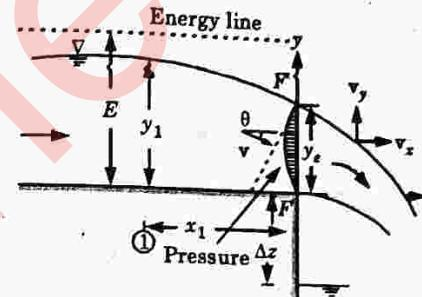

Fig. 3.23.1. Definition sketch of the end depth.
3. A typical free overfall is schematically illustrated in Fig. 3.23.1. The flow in the nappe emerging out of the overfall is obviously affected by gravity.
6. Also, at the brink, the pressure should necessarily be atmospheric at points F and F'. This causes the pressure distribution at section FF' to depart from the hydrostatic-pressure distribution and assume a pattern as shown in Fig. 3.23.1.
9. The critical depth y_c based on hydrostatic pressure distribution will occur upstream of the brink. In Fig. 3.23.1, section 1 can be taken as the critical section with $y_1 = y_c$. Then $x_1 = x_c$. In supercritical flow, y_1 will be equal to the normal depth, $y_1 = y_0$.